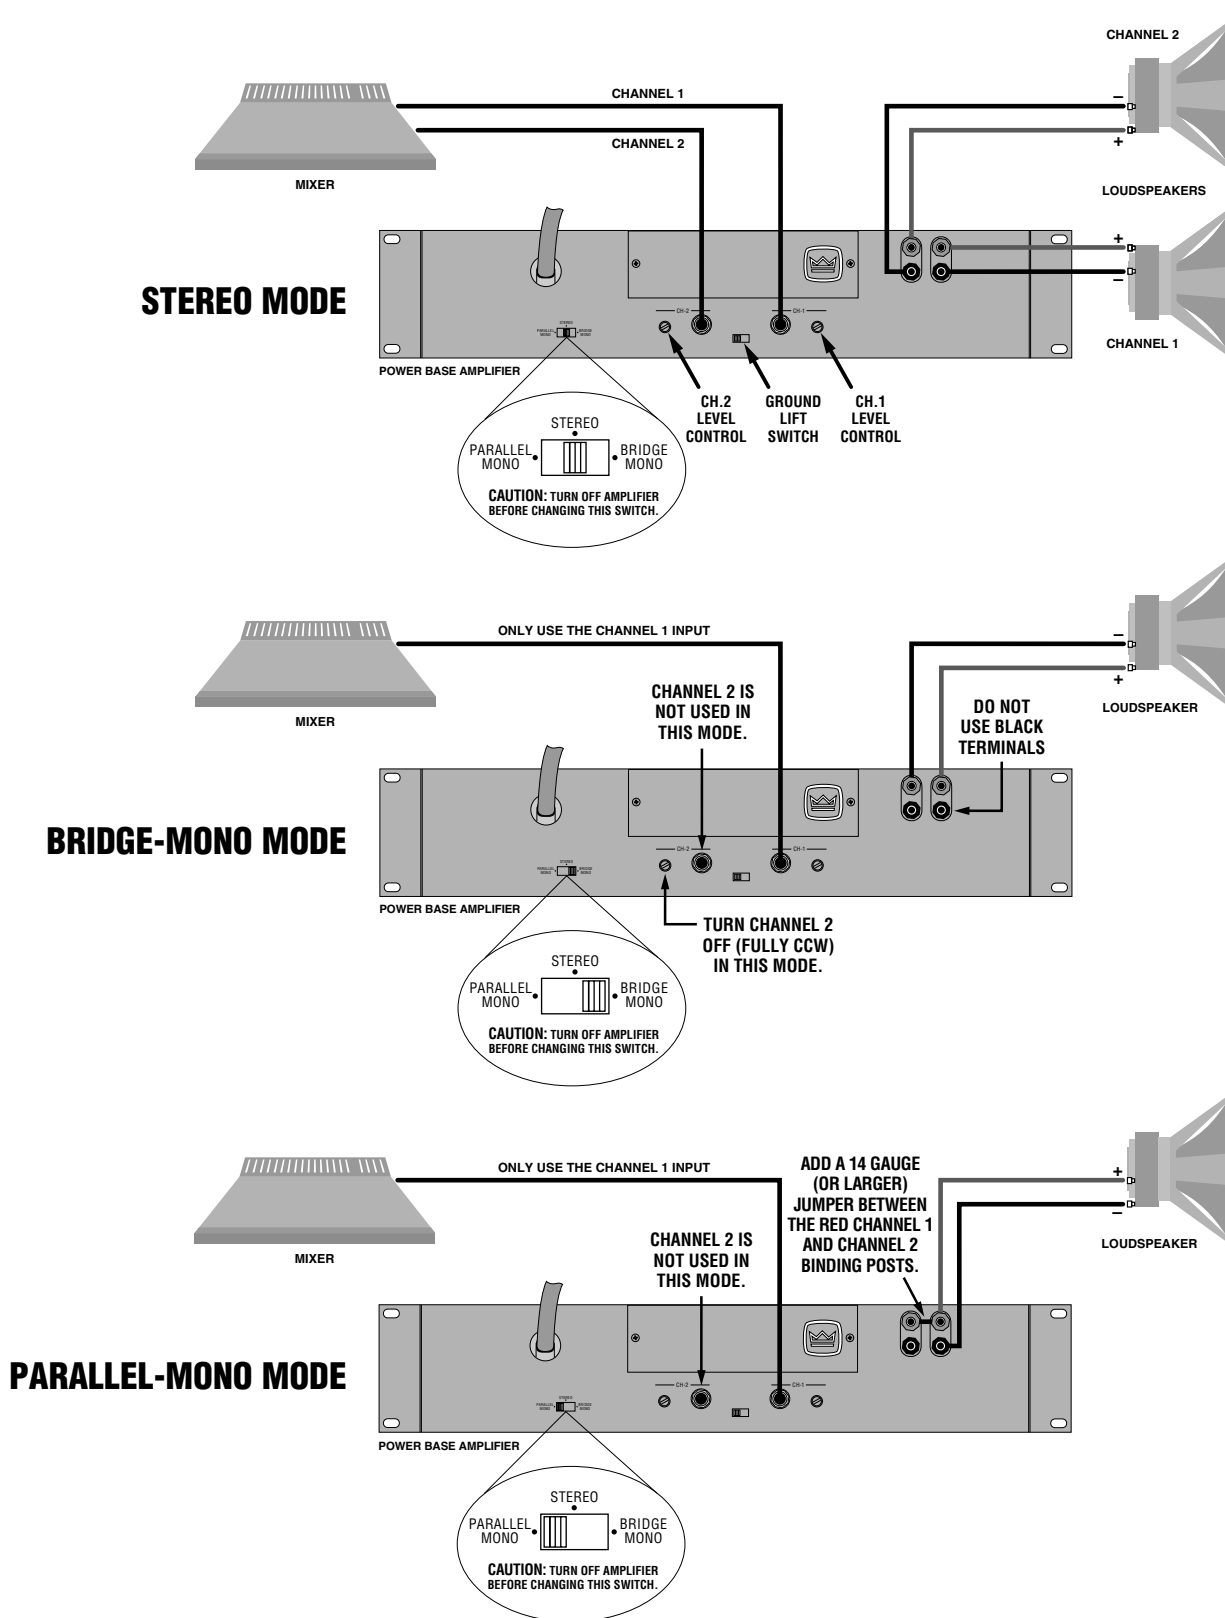

Fig. 2.1 Three System Connection Methods
4. Connect the input and output cables as shown in the first example in Figure 2.1.
4. Connect the input and output cables as shown in the second example in Figure 2.1. **Only use the channel 1 input.**
4. Connect the input and output cables as shown in the third example in Figure 2.1. **Only use the channel 1 input.**